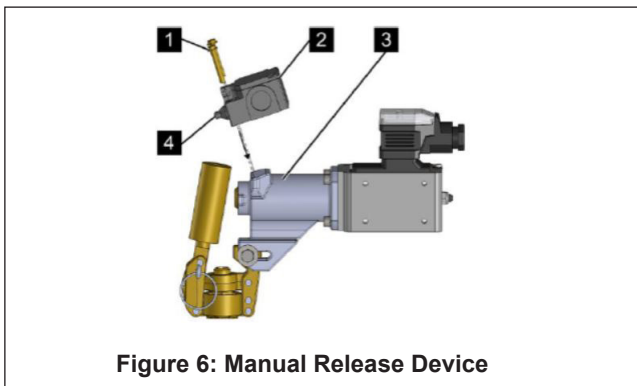

Figure 6: Manual Release Device
1. Loosely fasten the limit switch (Fig. 6/2) with cylinder screws and washers (Fig. 6/1) on the holder of the EM release device (Fig. 6/3).
2. Align the limit switch (Fig. 6/2) in such a manner that the contact (Fig. 6/4) is activated with the valve lever.